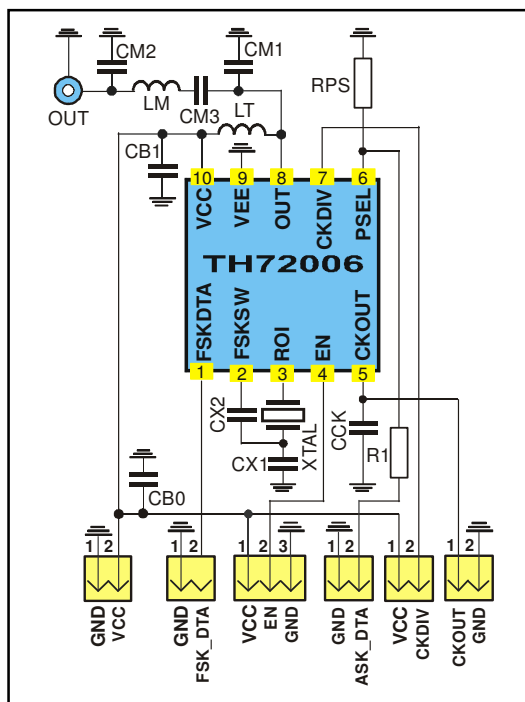

Fig. 6: Test circuit for FSK and ASK with 50 Ω matching network
typical values at $T_A = 23\text{ }^{\circ}\text{C}$ and $V_{CC} = 3\text{ V}$; test circuit shown in Fig. 6, $f_c = 315\text{ MHz}$
typical values at TA = 23 °C and VCC = 3 V; test circuit shown in Fig. 6
6.1 Test circuit component list to Fig. 6